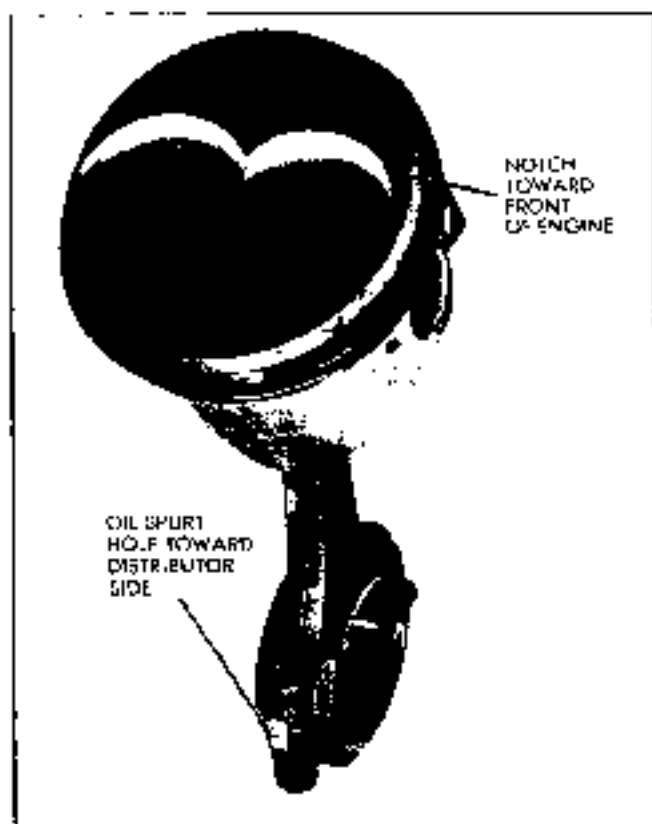

Fig. 6-60 Piston and Rod Assembly
2. Position connecting rod in its respective piston so that oil squirt hole faces toward distributor side of engine. Fig. 6-60.